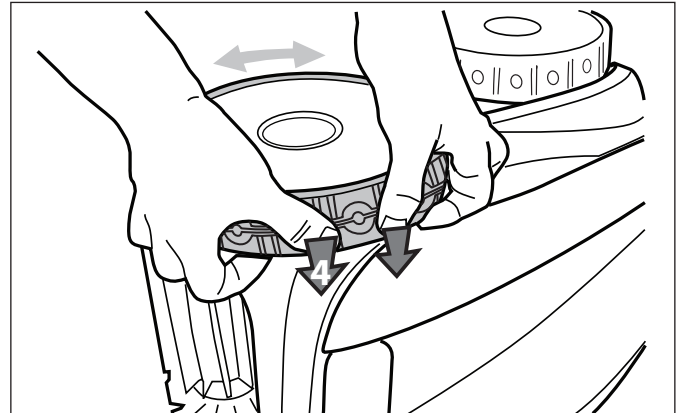

Figure 36. Push the Tire into Place on the Wheel
6. Push and position the rib of the inner side of the tire in the groove of the wheel (Figure 36). If needed, turn the wheel gently to help with installation.